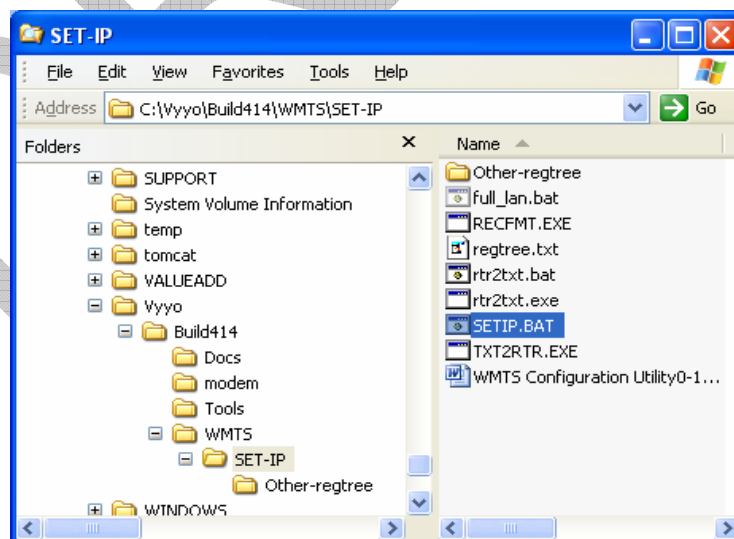

Figure 14: Location of SETIP.bat
1. Compile `regtree.txt` by executing `SETIP.bat`, which is located in the same directory as `regtree.txt` (see Figure 14). `SETIP.bat` is a batch file that converts the `regtree.txt` text file to a special format readable by the WMTS. The resulting file is named `RegTree.rtr` and is placed in the same directory as the `regtree.txt`.